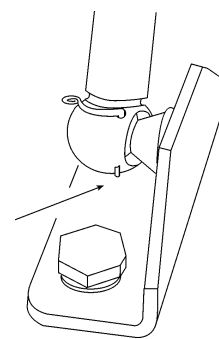

Figure 4-5.
7. Install the new door stop as it was removed. Make sure each retaining clip is installed so that the tip of the clip is showing at the bottom of the door stop (Figure 4-5).